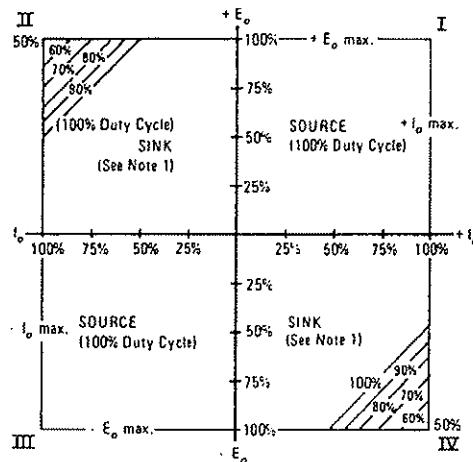

FIG. 1-2 BOP OUTPUT CHARACTERISTIC
- A) OUTPUT RANGE: The BOP can be locally (front panel) adjusted, or remotely programmed, from $(-)$ 100% to $(+)$ 100% of its specified d-c voltage and current range. The Class A bipolar output stage permits operation as either a SOURCE or a SINK. (See FIG. 1-2).